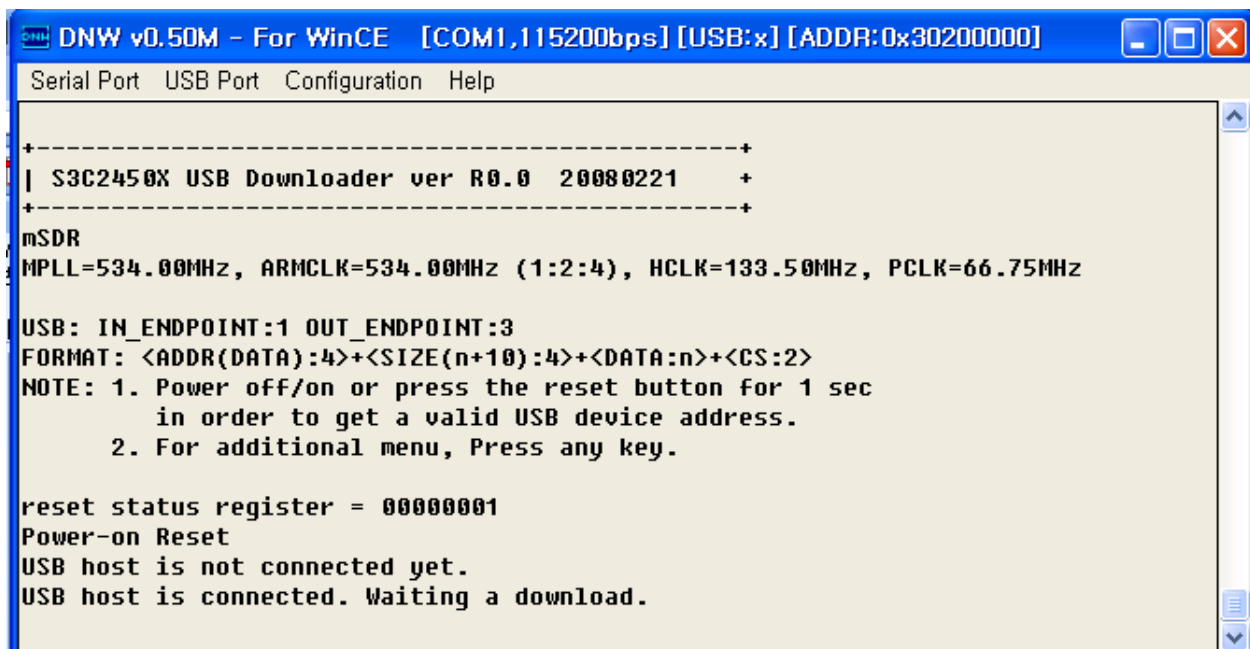

Figure 6-8 DNW Window after Board Power ON
8. On the Serial Port menu, click Connect. Switch ON the reference board. The DNW window appears as shown in figure 6-8.